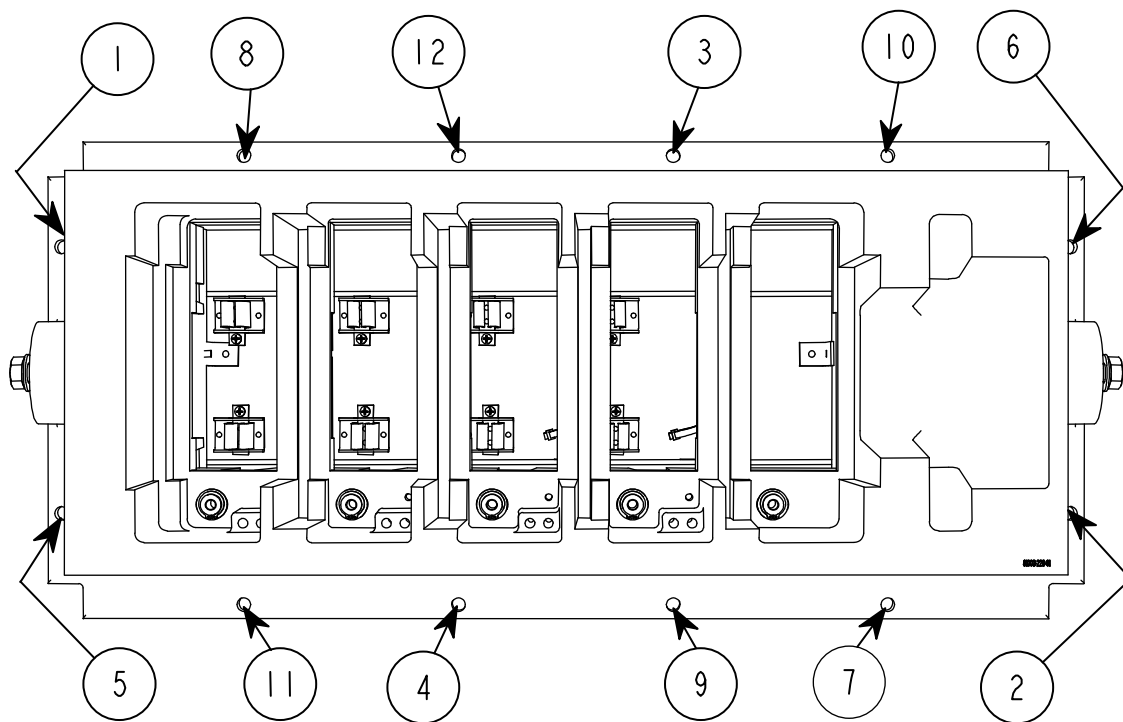

Figure 5.21 – Typical Torque sequence
6. When replacing the PowerCage, it is important to place the bolts on the outer flange in loosely. Torque bolts alternately on one flange and then the opposite flange to ensure even tightening of the module. A suggested sequence for torquing PowerCage bolts is shown in Figure 5.21.